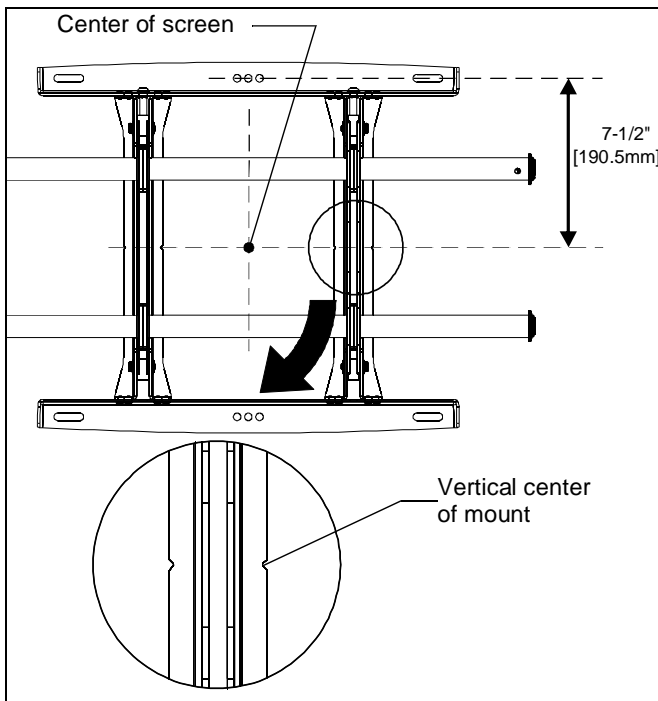

Figure 1
3. Line up the notches on mount with center of screen marking to determine vertical center. (See Figure 1)
2. Line up the notches on mount with center of screen marking to determine vertical center. (See Figure 1)
3. Measure up 7-1/2" (190.5mm) from the center point to mark location of the upper mounting slots. (See Figure 1)